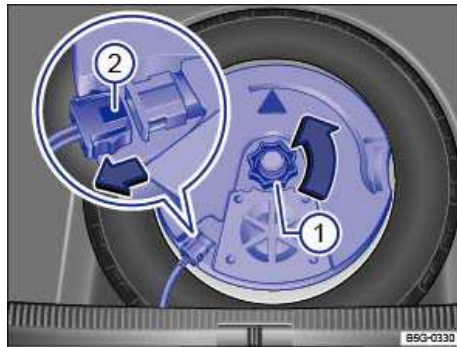

Fig. 180 Under the luggage compartment floor: Subwoofer (if equipped).
2. Unscrew the handwheel ⇒ fig. 180 \(1\) in a counterclockwise direction (arrow).